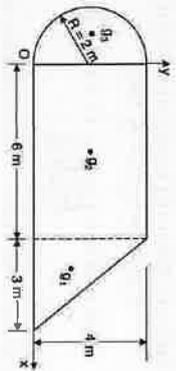

Fig. 15
- 5 Determine the centroid of the area shown in Fig. 15 with respect to the axis shown